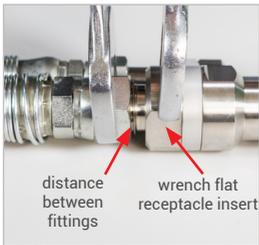

Figure 10
- ▶ Check the following measuring points (*Figure 10*)
- fittings (1)
- area of the clamping jaws (2)
- area of the eccentric actuator (3)
- ▶ Do not cover the area between the fittings (*Figure 10*). The pressure must be able to escape unimpeded here when the fittings are loosened.
Attention: Do not cover the area between the filling hose and breakaway coupling (Figure 10).